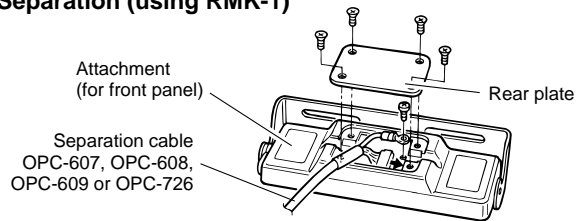

Fig. 1
- ① Separate the front panel from the transceiver main unit using an allen-wrench (1/32 in).
- ② Connect the optional separation cable to the both front and main unit attachments (fig. 1 and 2).